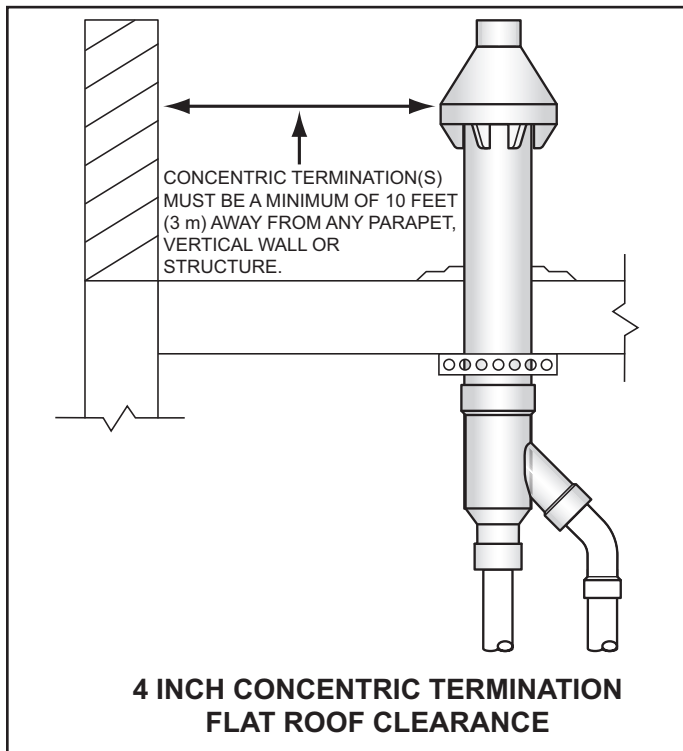

Figure 24
4. When installing a concentric termination vertically through a flat roof, the termination's vent cap must be a minimum of 10 feet (3 m) away from any parapet, vertical wall or structure as shown in Figure 24.